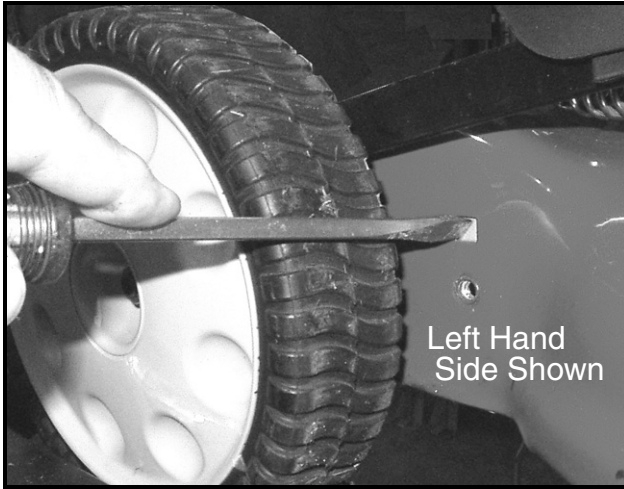

FIGURE 3
9. Using a large flat blade screw driver, push in on the locking tabs on each side while pulling down on the baffle. This will move the tabs out and away of the square holes in the deck. Discard the baffle and screws. See Figure 3.